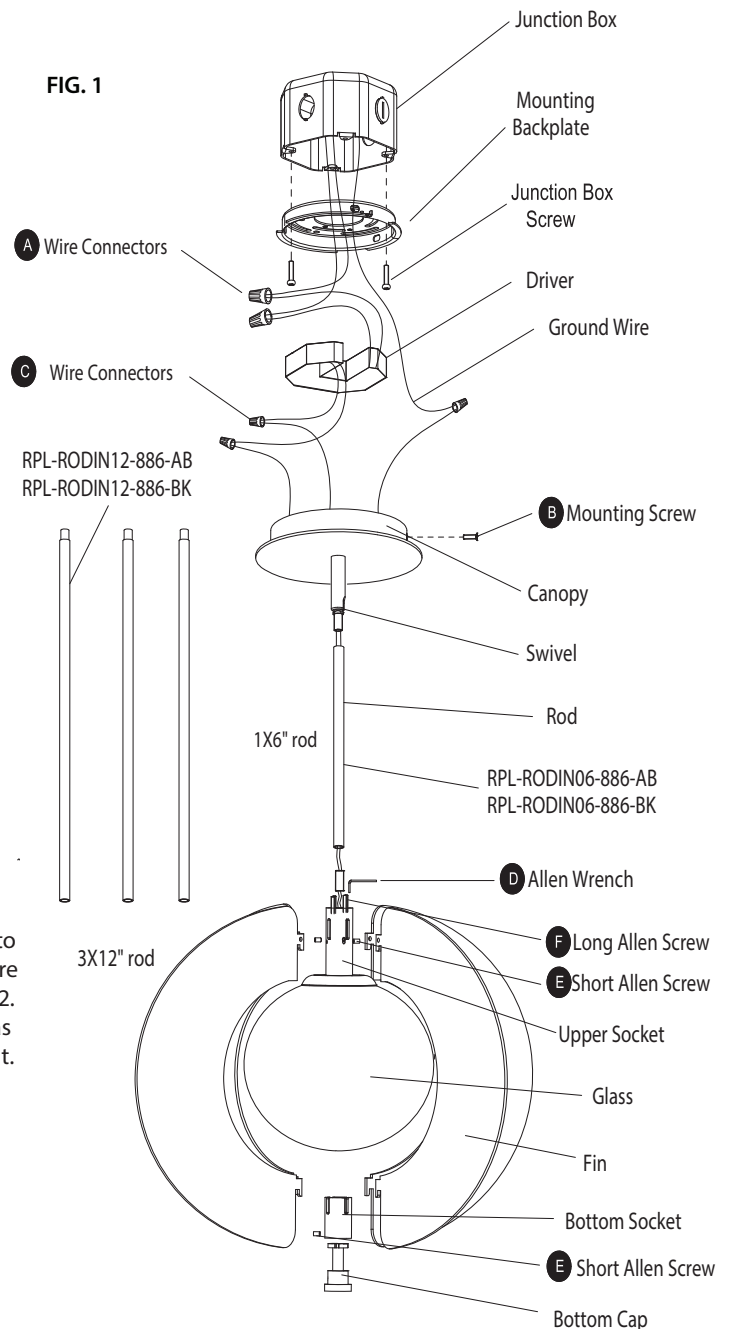

FIG. 2 Wiring
CONNECTING THE WIRES (Fig. 2)
8. Cut the extra wire thread from the fixture. Connect the driver input wire with junction box as shown in Fig.2, make sure that all wire connectors (A) are secured. If your outlet box has a green or bare copper ground wire, connect the fixture's ground wire to it. Other wise, connect the fixture's ground wire directly to the back plate using the GND screw provided. After wires are connected, tuck them carefully inside the junction box.
10. Connect the driver output wire with fixture wire as shown in Fig. 3. Red to the red, and black to the black, making sure that all wire connectors (C) are secured. Connect the driver input wires to junction box as shown in Fig. 2. Making sure that all wire connectors (A) are secured. If your outlet box has a green or bare copper ground wire, connect the fixture's ground wire to it. Otherwise, connect the fixture's ground wire directly to the back plate using the GND screw provided. After wires are connected, tuck them carefully inside the junction box.